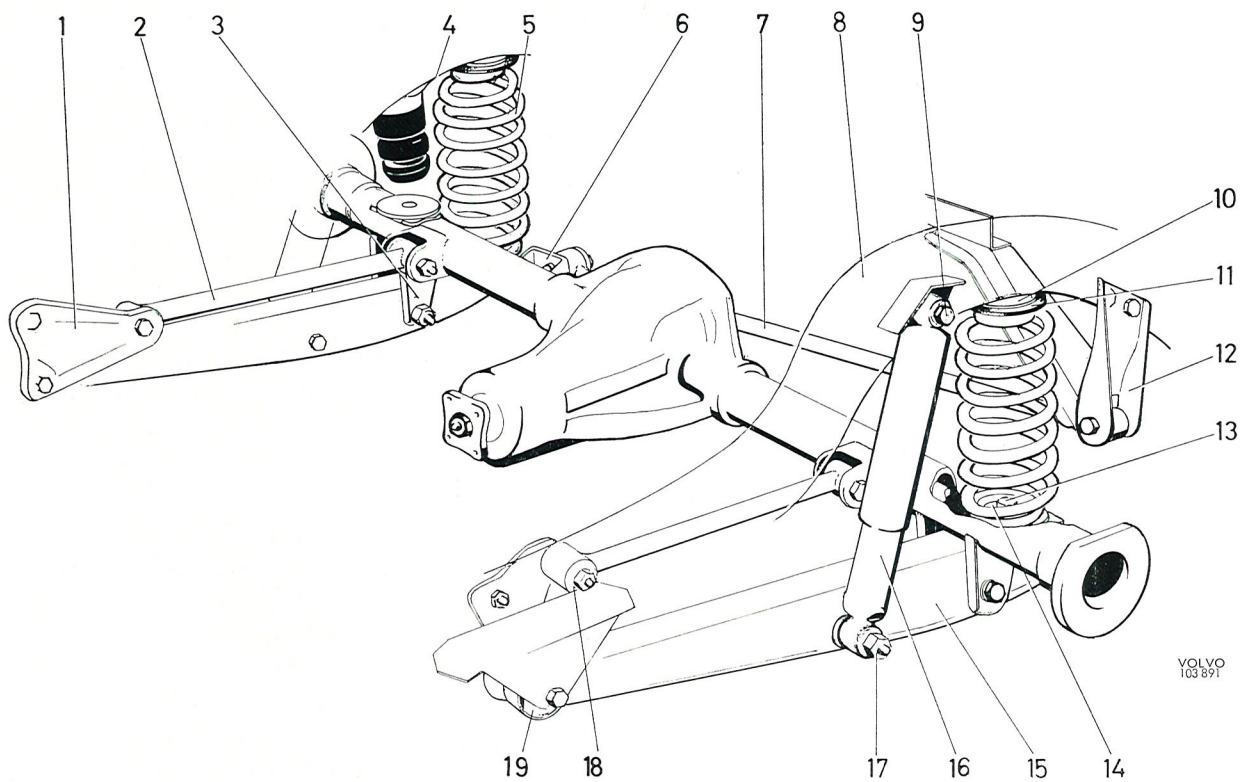

Fig. 7-5. Rear axle suspension
The upper ends of the rear springs (5, Fig. 7-5) are bolted to the rear side-members (8) and at the lower ends to the support arms (15) behind the rear axle. A more progressive suspension of the rear end is obtained with the help of a hollow rubber spring (4) which absorbs impacts and reinforces the spring under load or in connection with large spring movement.
3. Remove the upper attachment (9, Fig. 7-5) for the shock absorber. Lower the jack carefully and remove the spring.
The rear axle is attached to the body through two flexibly mounted support arms (15, Fig. 7-5). Forces acting longitudinally are taken up by two support stays (2) and the lateral forces are absorbed by a track bar (7). The support arms are fore-mounted in rubber bushes (19). The support stays and track bar are attached to the rear axle frame through the rubber bushes.
3. Remove the screw on the support arm at the rear axle bracket (3, Fig. 7-5). Remove the front screw and take off the support arm.
2. Remove the nuts at both brackets (6 and 12, Fig. 7-5). Remove the track bar from the bracket mounted on the rear axle. Remove the screw at the bracket (12) attached to the frame and take off the track bar.